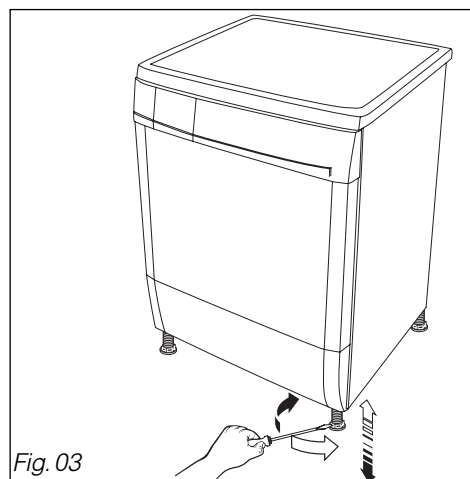

Fig. 03
Your dryer is fitted with 4 adjustable feet (Fig.03). To adjust its horizontality and stability:
- Screw one or more of the feet in or out using a spanner or a screwdriver to adjust their height to suit the shape of the floor (Fig.03)